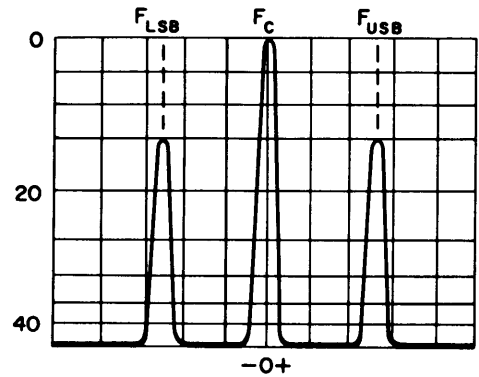
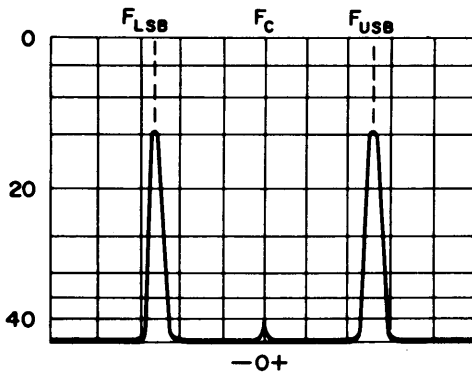

Figure I-3-4. Appearance of Carrier, USB and LSB for Carrier Modulated by One Tone
Figure I-3-5. Appearance of DSB with Suppressed Carrier Modulated by One Tone
(4) DSB with Carrier. When the carrier is modulated with a single constant audio frequency (tone), an upper and lower sideband frequency will appear as shown in figure I-3-4. The upper sideband (USB) frequency will equal the carrier frequency plus the modulating frequency. The lower sideband (LSB) frequency will equal the carrier minus the modulating frequency. USB and LSB pips are mirror images of one another. Appearance of these frequencies for double sideband mode (DSB), as shown in figure I-3-4, will also occur in AM and MCW transmission, if the modulating frequency is a single constant audio tone. For 100% modulation, in AM and MCW, the maximum power in each sideband cannot exceed 25% of the carrier power. In sideband transmission modes, modulation percentage does not influence intelligibility of received signal, within good operating limits.
(5) DSB with Suppressed Carrier. In sideband modes, since the carrier conveys no information and serves only as a reference point, it may be suppressed. The power in each sideband is 50% of the total signal power. If the carrier appearing in figure I-3-4 is suppressed at the sideband transmitter, the result will be as shown in figure I-3-5.
(6) SSB with Suppressed Carrier. Since either LSB or USB frequencies contain all the intelligence to be transmitted, it is often elected to transmit only one of them in order to take up less space on the frequency spectrum. If the USB appearing in figure I-3-5 is suppressed at the sideband transmitter, the result will be as shown in figure I-3-6. Conversely, the LSB may be suppressed instead of the USB.